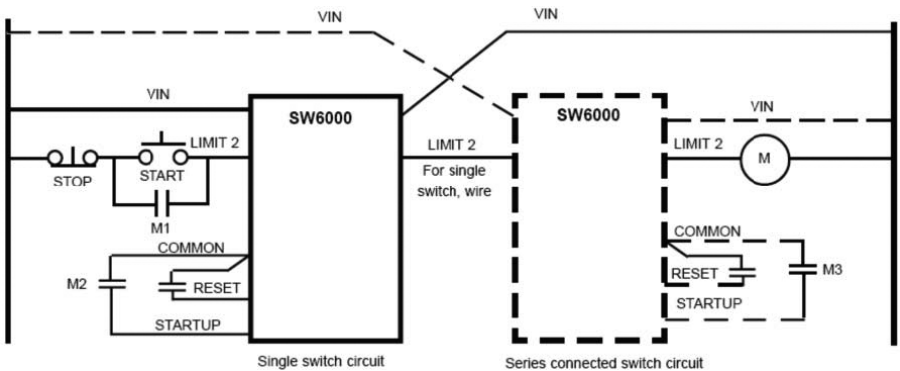

Figure 4: Parallel connection of two SW6000
The triac output(s) are electro-optically isolated from each other, power, and the internal circuit. These are medium-power devices with high immunity to electrical transients. If desired, each triac can be supplied from an AC voltage source different from the main supply. The triacs can be connected in series with the triacs of other units. See Figure 4. Parallel connection of two switches doubles the triac holding (minimum load) current requirements. The maximum triac supply voltage is 250 VAC. The worst case triac leakage (off) current is 2 mA. The maximum triac holding current is 35 mA at 25°C (60mA at -40°C) which requires that the relay pull-in current have a greater value. Do not use a DC supply. The triacs can be set for N.C. or N.O. operation by positioning the Limit 1 / Limit 2 switches accordingly.
a) Ensure that all wiring connections to the terminal block are correct, terminal screws are tight and that the correct voltage is present at the terminal block power (Vin) terminals. DC voltage polarity is arbitrary. Refer to Figure 4 and Product Identification page 2 for specific details. If power is applied, the LCD display (if present) should be functioning, and the current output should be between 4.0 and 20.0 mA.